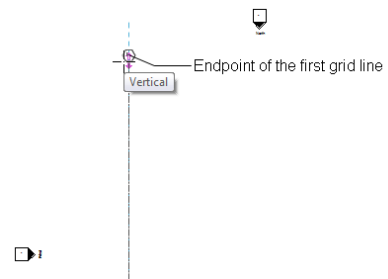

Figure 3-46 Specifying the endpoint of the first grid line
4. Move the cursor vertically up (at an angle of 90° from the horizontal plane) and click when it reaches near the **North** elevation arrow, refer to Figure 3-46 for location.